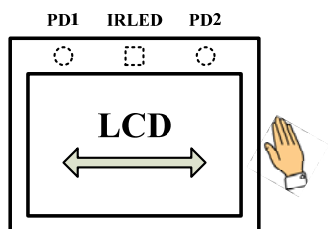

Figure 8 Motion Mode Detect (Top View)
- MD** Motion Detection (Figure 8)